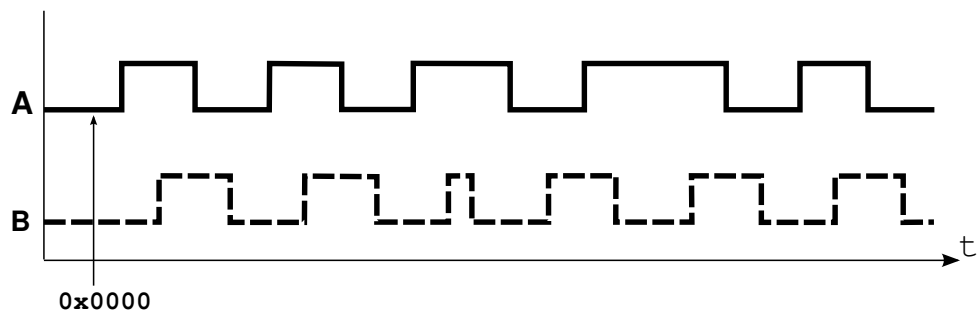

Figure 2: Sample output for pre-lab problem 3a. The 16-bit counter is initialized to 0x0000.
- a. On Figure 2, draw lines where the quadrature decode function would update the counter and label each line with the value the counter would hold. Assume the function is operating in slow mode.